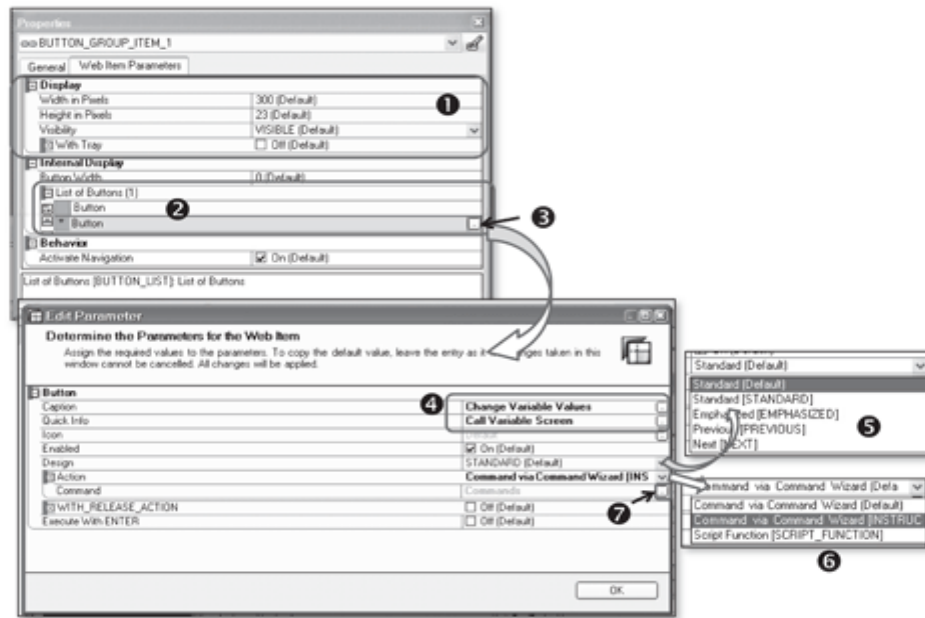

Figure 11.12 Maintain Button Group/Add a Button
Apart from maintaining the display settings for the button group (see ❶ of Figure 11.12), you must define a button (or multiple buttons) on this screen (❷).
To add a button, click on the button shown in ❸ of Figure 11.12. The Edit Parameter box appears, in which you define the button settings (❹). You also have to select one of the available button designs (❺).
Now that you've configured the button, the next step is to assign an action to it. You can either assign a command from the already available set of commands, or you can assign a custom *JavaScript* function to the button. We have to assign an action that will call the variable screen. This command is available in the Command Wizard, so select Command via Command Wizard as the Action as shown in ❻ of Figure 11.12. Click on the button shown by ❼ of Figure 11.12 to call the Command Wizard.